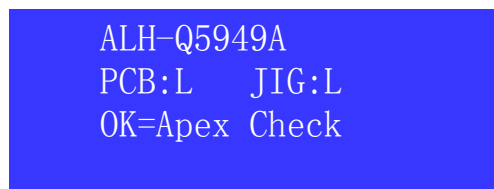

Figure 11
2. In the interface shown by Figure 11, press F1 for several times until the third line shows "Apex Program xx"; see below.